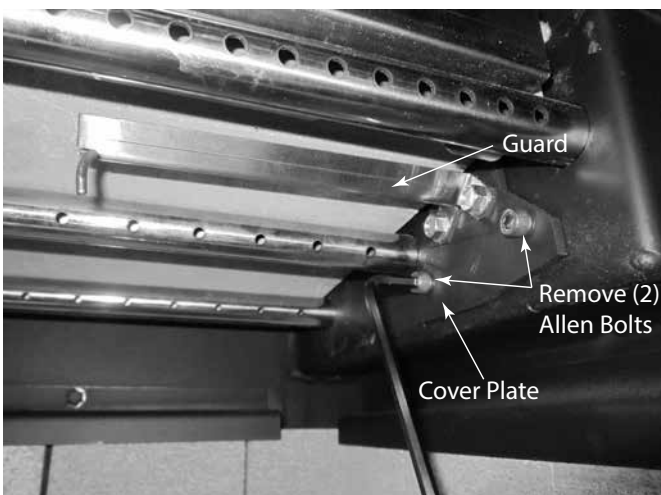

Figure 4.6 Cover Plate with Thermocouple Guard
- Next, open the appliance door, look for the thermocouple in the top left or top right side of the firebox. Once located, using a 3/16" Allen wrench, remove the (2) Allen bolts, then pull the cover plate (with the Thermocouple guard attached to it) down and off of the thermocouple. See Figure 4.6.